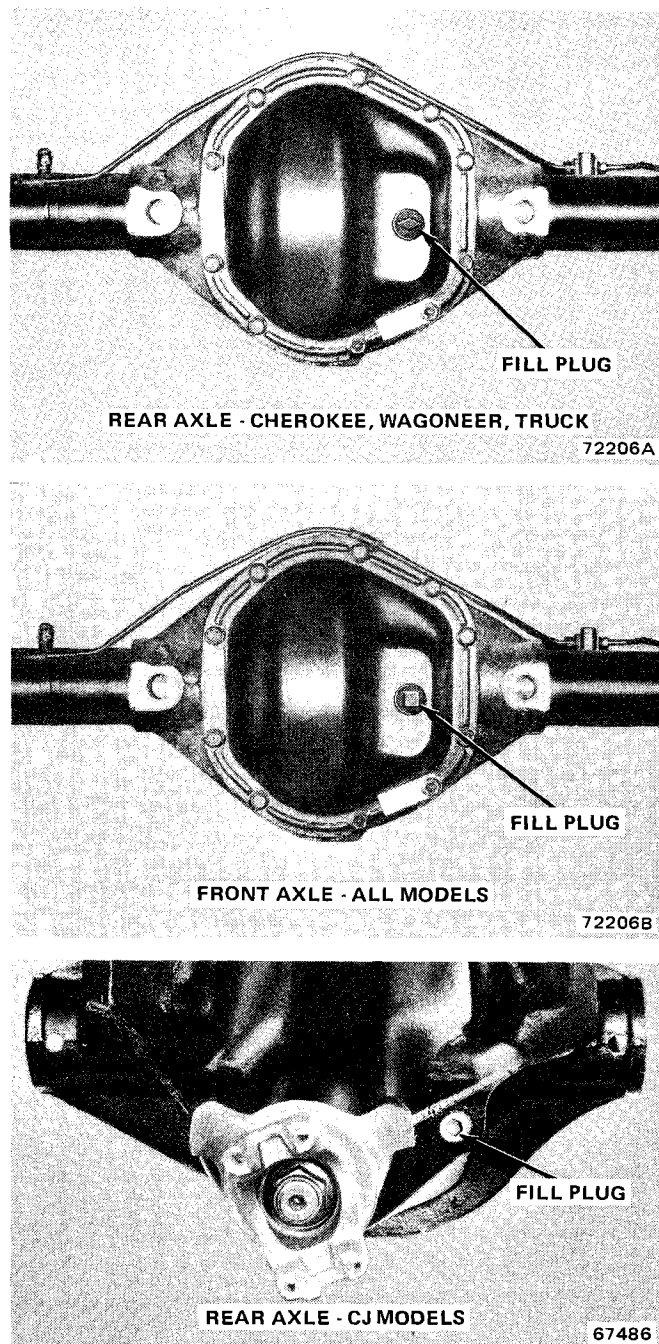

Fig. B-15 Axle Fill Plug Locations
- (1) Remove axle differential housing cover.
- (2) Allow lubricant to drain completely.
- (3) On all differentials (except Trac-Lok), flush the differential with a flushing oil or light engine oil to clean out the housing (do not use water, steam kerosene, or gasoline for flushing). Trac-Lok differentials may be cleaned only by disassembling the unit and wiping with clean, lint-free rags. Do not flush the unit.
- (4) Check condition of differential housing cover gasket. Replace if necessary.
- (5) Install gasket and differential housing cover.
- (6) Tighten cover bolts to 15 to 25 foot-pounds torque.
- (7) Remove fill plug and add new lubricant to fill-hole level (fig. B-15).
- (8) Install fill plug.
The lubricant level of all differentials should be at the level of the fill hole (fig. B-15). If not, bring to level by adding the recommended lubricant.